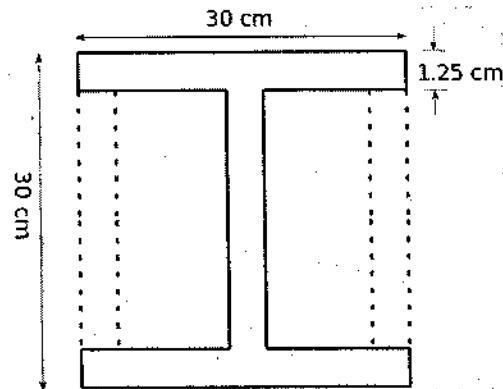

Figure 1
- (a) Deduce the constitutive model for the Anisotropic-Monoclinic material. (04)
- (b) Compute the Lamé's coefficients λ and μ for a material having $E = 200$ GPa and $\nu = 0.3$. Also find the hydro-static pressure required to create a volumetric strain of 1.15×10^{-3} (compressive) in a block of same material. (08)
Q.3 Derive the expression for normal, radial and shear stresses due to a circular hole in a stressed plate by Kirsch's Problem. (12)
- (a) Derive the expression for the twist (θ) of a thin walled tube when subjected to the torsion. Consider uniform thickness of the tube. (12)
- (b) A 30 cm I beam (as shown in Figure 1) with flanges and with a web 1.25 cm thick, is subjected (12)